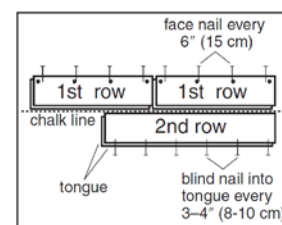

Figure 6
- Use the longest, straightest boards available for the first two rows. For random and alternate width products, use the widest plank for the first row. Align tongue of first row on chalk line. The groove should be facing the starting wall. Pre-drill 1/2" from back (groove) edge, 1"-2" from each end, and at 6" intervals when possible (Figure 6). Fasten using 4 or 6d finishing nails or 1" pneumatic finish nails/brads. Countersink the nails (Figure 6).